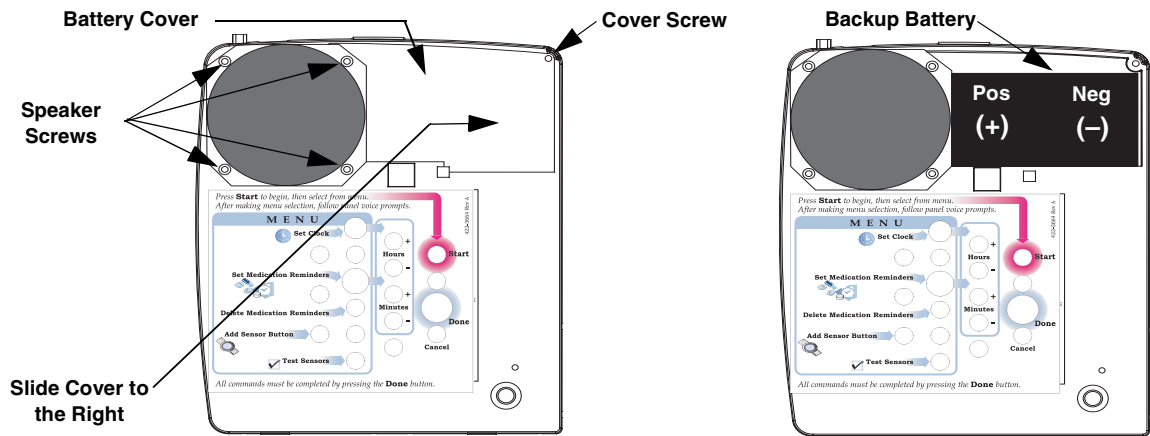

Figure 6. Replacing a Backup Battery
3. Remove speaker screws, battery cover screw, and battery cover (see Figure 6).